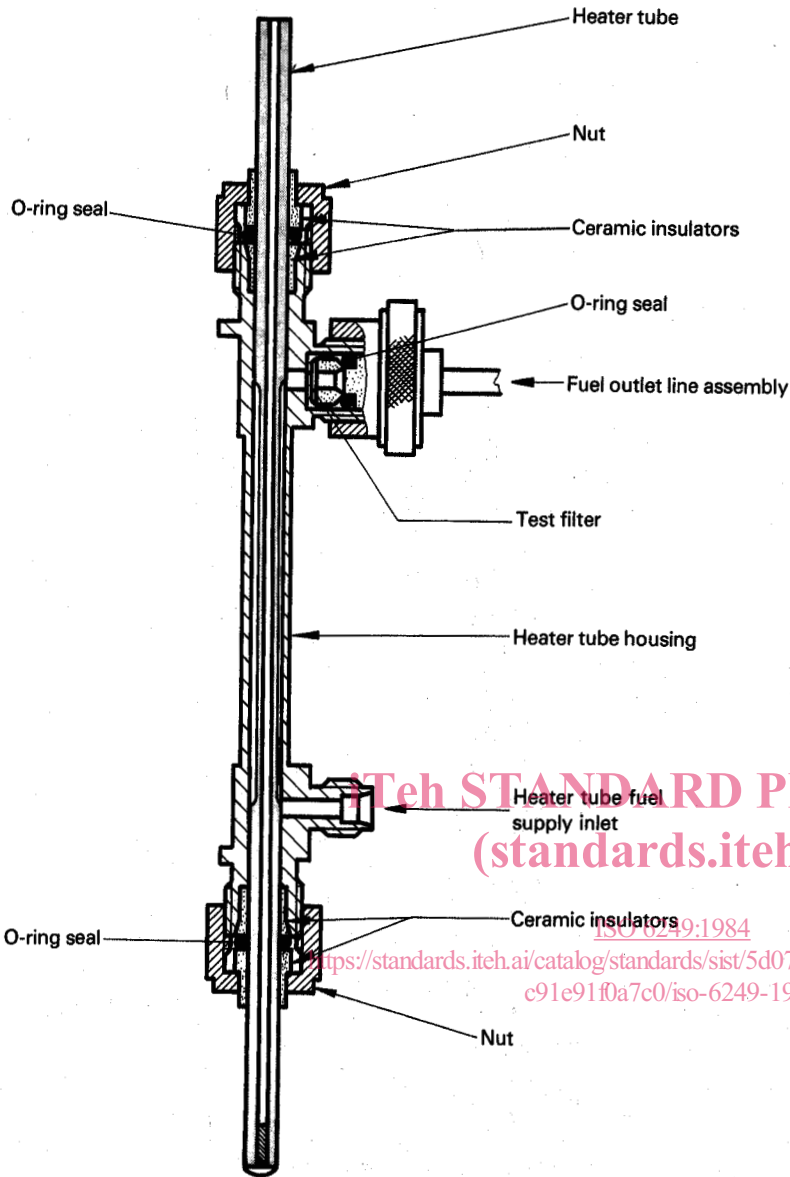

Figure 3 — Assembly drawing of heater tube section
6.6.3 Hold the heater tube at one end and insert it carefully, open end upwards, into the heater housing, the lower end can be recognized by the presence of the drive screw which closes it. (See figure 3 for correct assembly of the heater tube and heater tube housing.)
6.6.4 Onto one end of the heater tube, sequentially install a flared ceramic insulator (flared end out), high temperature O-ring, shoulder ceramic insulator (large end first), and hexagon nut. Lightly finger tighten the nut with the heater tube approximately centred in the housing (see figure 3).